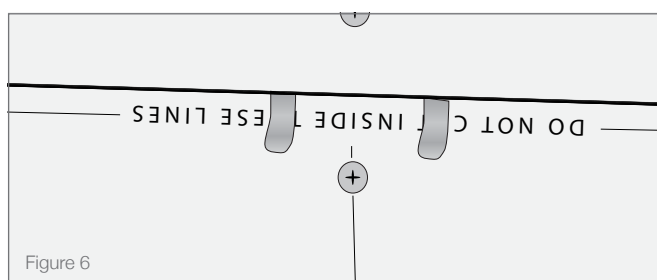

Figure 6
1. Have the drywall contractor fit & install the drywall around the AS mounting platform being sure to fasten at least one 1-1/4" drywall screw to each patch clip location (see Figure 6).